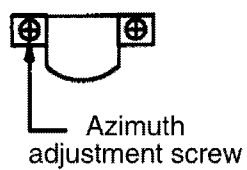

Fig 3
1. Play the test tape (QZZCFM) and adjust the azimuth adjustment screw so that the output reaches maximum. (Fig. 3)